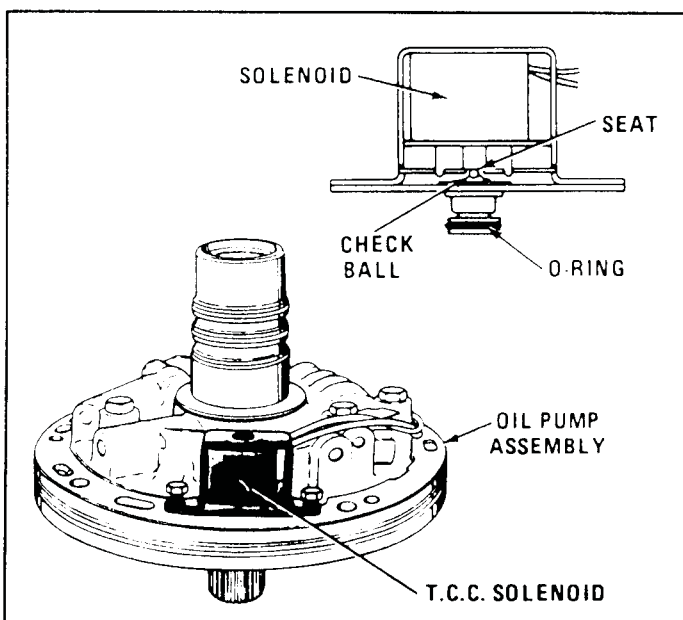

Figure 103
26. Install new "O" ring onto the lock-up solenoid and lubricate with small amount of "Trans-Jel" (See Figure 103).
27. Install the lock-up solenoid into the pump cover in the position shown in Figure 103.